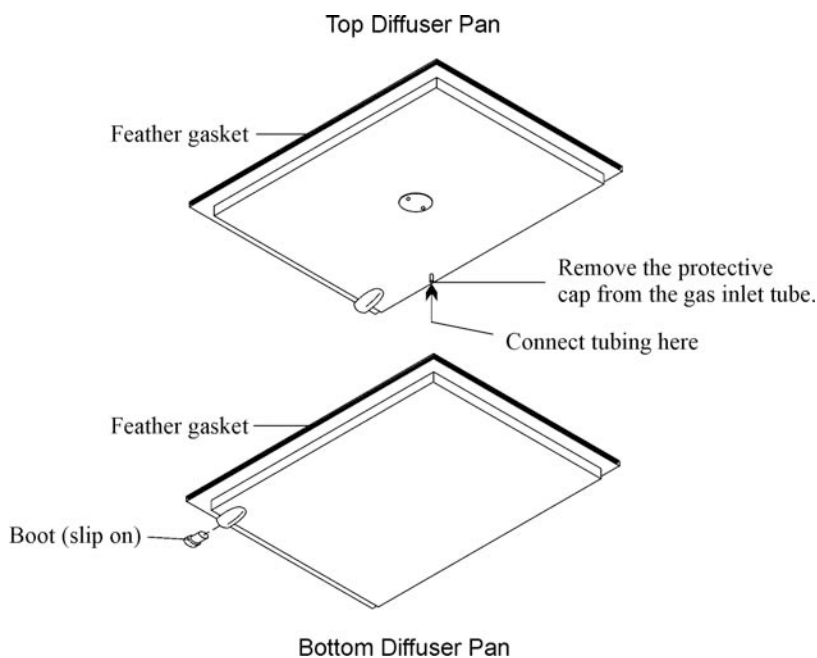

Figure 2-2
1. Install the boots onto the top and bottom diffuser pans. The diffuser pans are the flat, metal shelf-type assemblies that form the top and bottom of the incubator chamber. (Refer to Figure 2-2).
7. Remove the protective cap from the gas inlet tube located on the bottom of the top diffuser pan. (Figure 2-2).